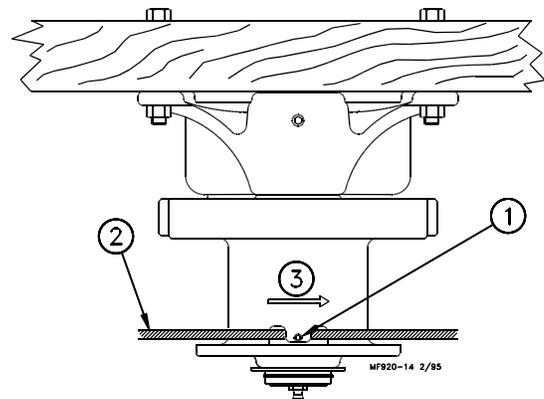

Figure 21. Cable Installation (Side View).
10. Wrap the cable through the Winch Drum Relief located near the bottom of the drum. Tighten the set screw to anchor the cable to the drum, **see figure 21.**